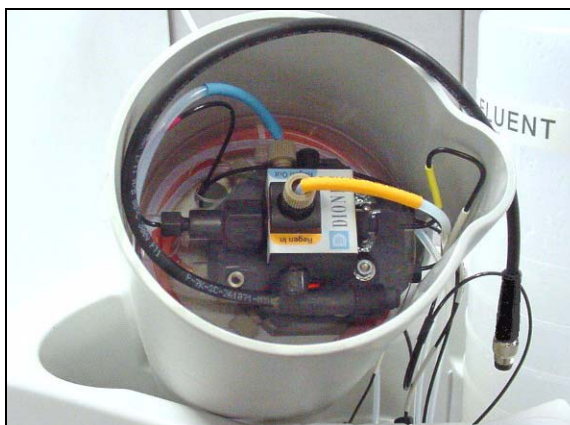

Figure 41. CR-TC Installed in Holder
5. Check that none of the lines are caught under the CR-TC and then push the CR-TC onto the metal stud inside the EGC holder (see Figure 41). Push down until the CR-TC snaps into place.